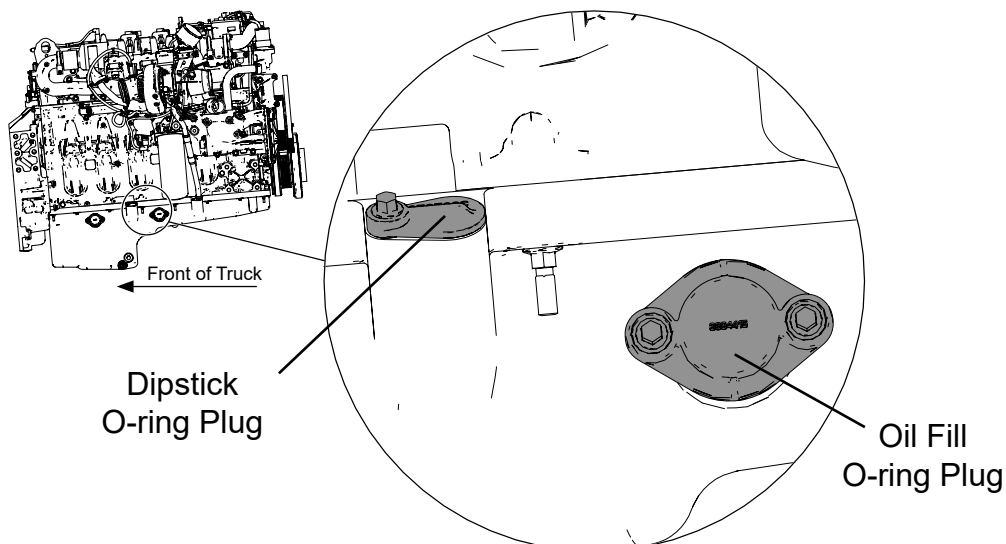

Figure 3
13. Loosen and remove dipstick O-ring retaining screw on left side of vehicle engine, see Figure 3. Save retaining screw.
14. Remove dipstick O-ring plug, see Figure 3. Save O-ring plug.
15. Loosen and remove oil fill O-ring retaining screws on left side of vehicle engine, see Figure 3. Save retaining screws.
16. Remove O-ring plug from engine oil pan, see Figure 3. Save O-ring plug.